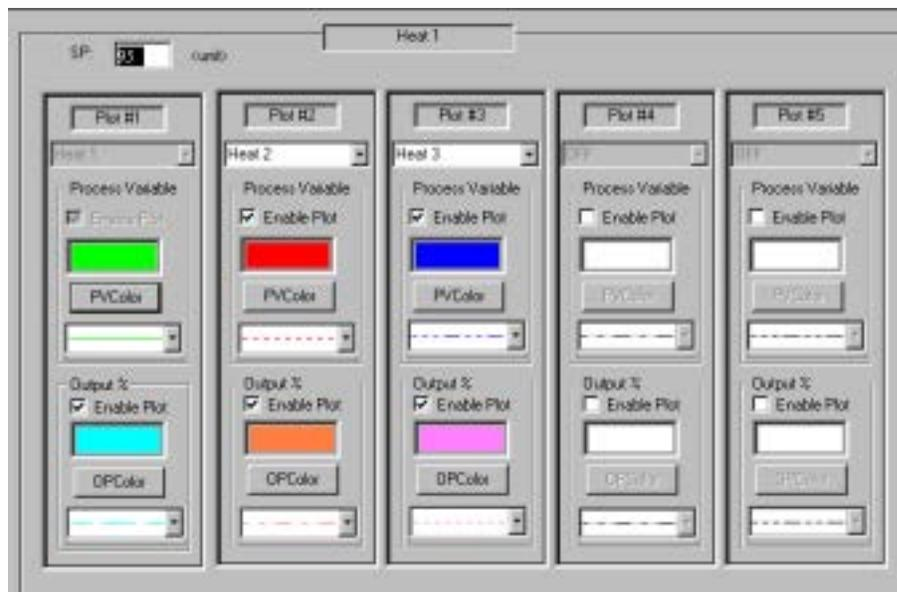

Figure 21
- d. Trend Plot Setup displays the channel trend plot setup screen that allows the user to enter specific colors, line styles, and channel variables to the channel plot views. Click the Trend Plot Setup icon on the main toolbar or from the menu bar click Utilities then Trend Plot Setup. **See Figure 21.**